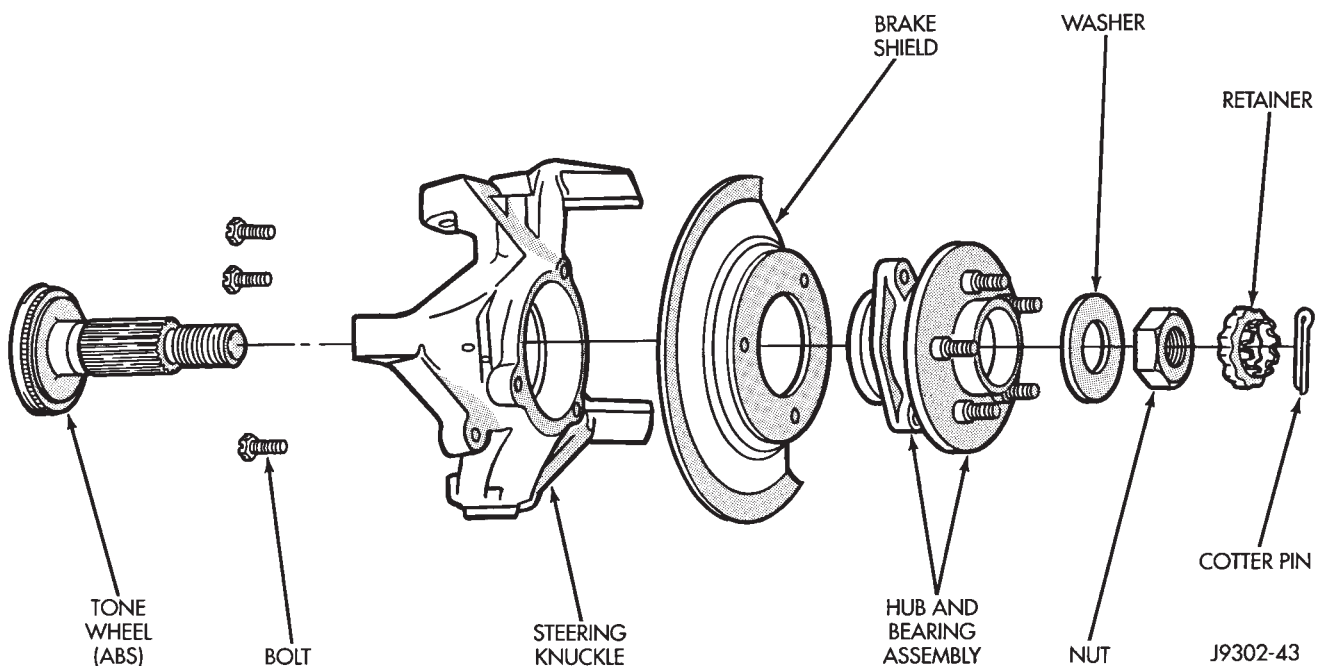

Fig. 9 Hub Bearing & Knuckle
- (1) Raise and support the vehicle.
- (2) Remove the wheel and tire assembly.
- (3) Remove the brake caliper, rotor and ABS wheel speed sensor, refer to Group 5 Brakes.
- (4) Remove the cotter pin, nut retainer and axle hub nut (Fig. 9).
- (5) Remove the hub mounting bolts and remove hub bearing from the steering knuckle and axle shaft.